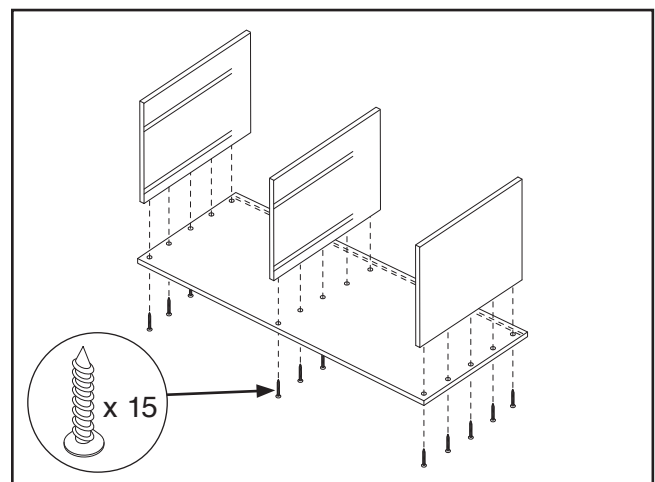

Figure 6. Securing cabinet side and middle panels to base panel.
5. Secure cabinet side panels and middle panel to cabinet base panel using (15) M4 x 30 tap screws, as shown in **Figure 6**.